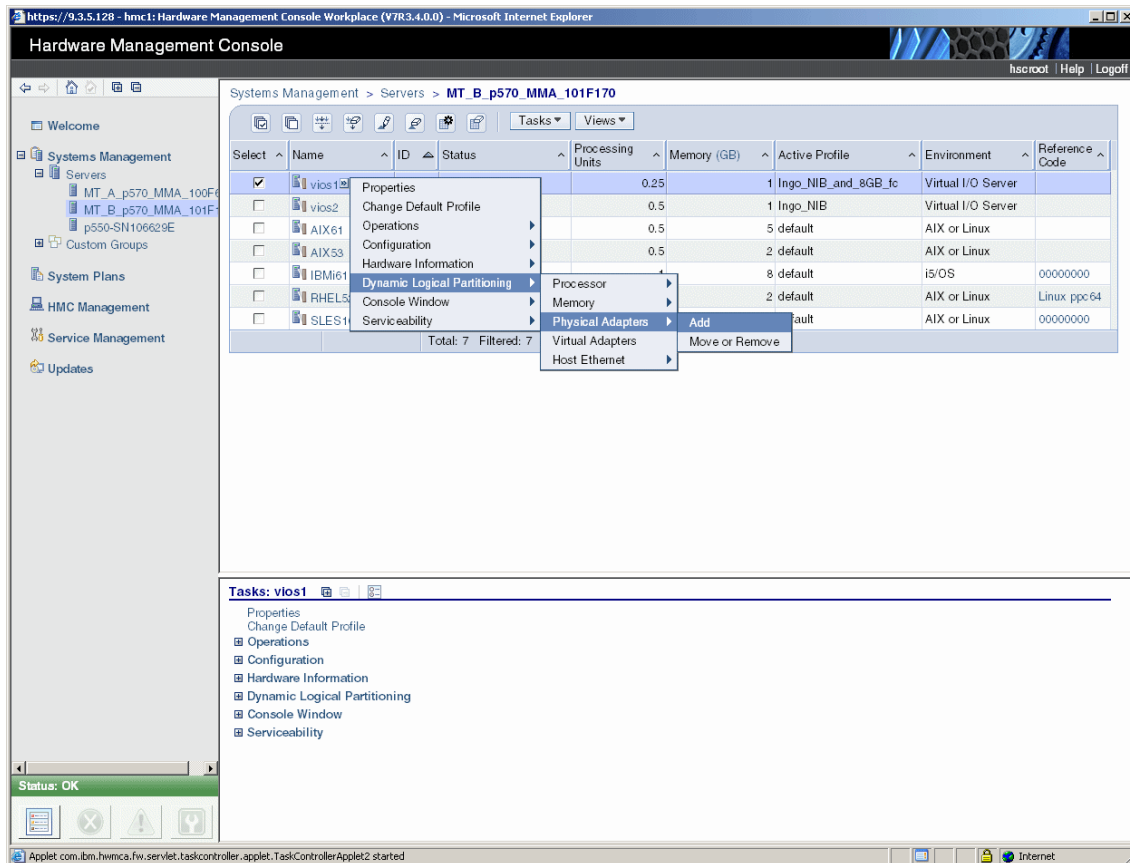

Figure 12-9 Add physical adapter operation
- On the **Tasks** menu on the right side of the window, select **Dynamic Logical Partitioning** → **Physical Adapters** → **Add** as shown in Figure 12-9.